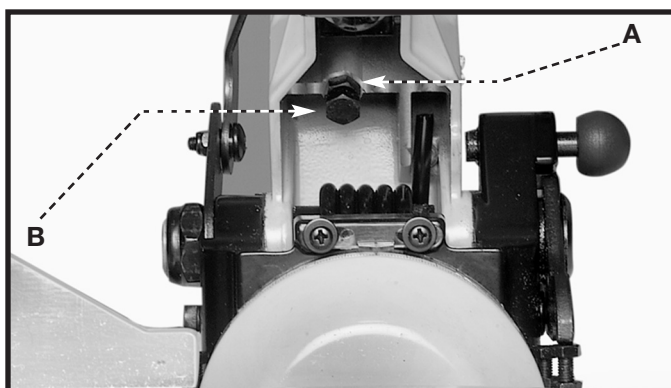

Fig. 26
1. Limit the downward travel of the saw blade to prevent contact with any metal surface of the machine. Make this adjustment by loosening nut (A) Fig. 26, and turning adjusting screw (B) in or out.
3. After all adjustments, tighten the nut (A) Fig. 26.